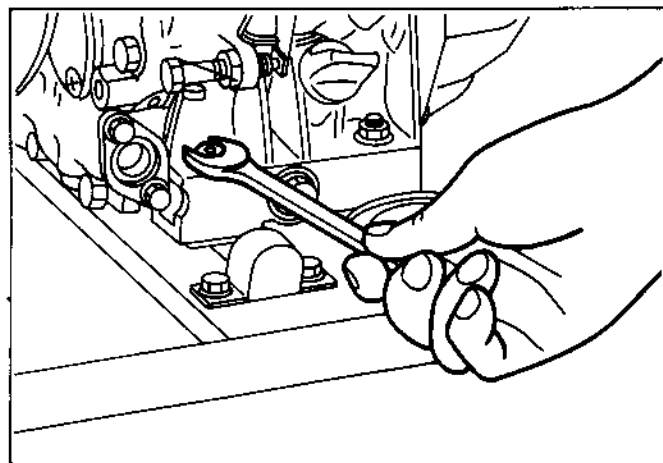

Fig. 10-40
- (11) Adjust the position of SHAFT (STOPPER) so as its both ends are placed in the center of the STOPPERs, then tighten the flange nuts to fix the SHAFT (STOPPER). (See Fig. 10-40.)